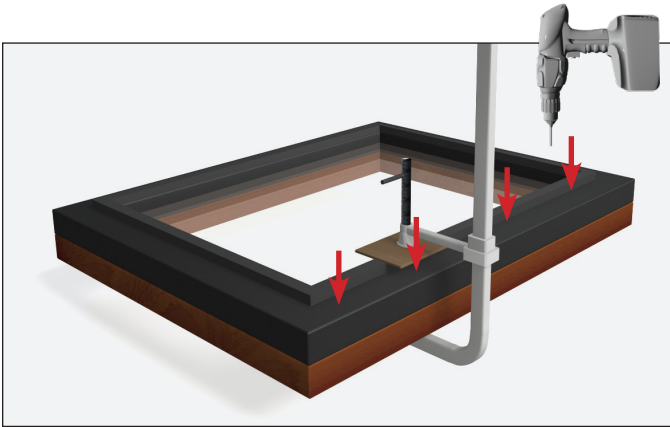

FIG. 6. Be sure to NOT drill through the panel's front.
7. Clamp the door and panel. See fig. 6.
8. Carefully drill pilot holes into the panel. See fig. 6.